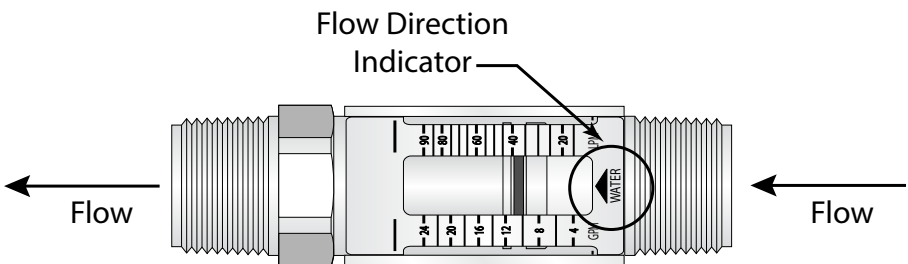

Figure 4: Flow direction indicator
These meters accept flow in one direction. Align the *Flow Arrow*, located on the bottom of the meter's flow scale, in the same direction as the anticipated line flow. See Figure 4.
3. Thread the flow meter and coupling onto the inlet pipe and hand tighten. Make sure the flow direction arrow on the flow meter corresponds with the system flow direction. See Figure 4.
6. Make sure the flow direction arrow on the flow meter corresponds with the system flow direction. See Figure 4 on page 9. Lubricate the union O-ring and connect the union together.
7. Place the flow meter in between the two installed brass fittings. Make sure the flow direction arrow on the flow meter corresponds with the system flow direction. See Figure 4 on page 9. Thread the two brass hex couplers into the flow meter body.
8. Place flow meter between the two installed fittings. Make sure the flow direction arrow on the flow meter corresponds with the system flow direction. See Figure 4 on page 9. Thread the two hex couplers onto the flow meter body.
2. Thread the inlet of the flow meter onto the appropriate pipe connection. Make sure the flow direction arrow on the flow meter corresponds with the system flow direction. See Figure 4 on page 9.